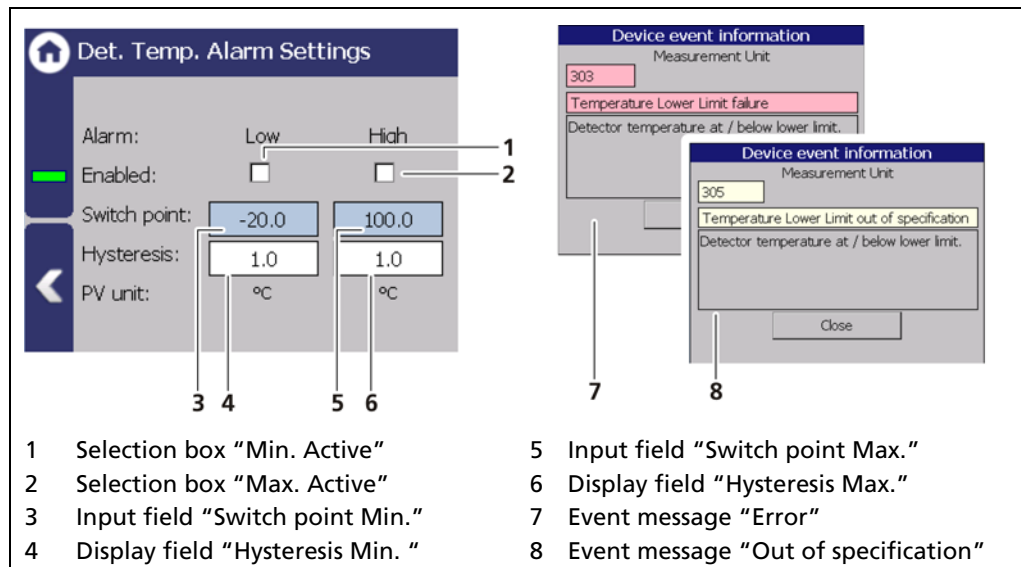

Fig. 111 Det.-Temp Alarm Settings
1. Activate the check box (Fig. 111, item 1).
2. Click on the input field (Fig. 111, item 2) to enter a switching point.
1. Activate the check box (Fig. 111, item 3).
2. Click on the input field (Fig. 111, item 4) to enter a switching point.